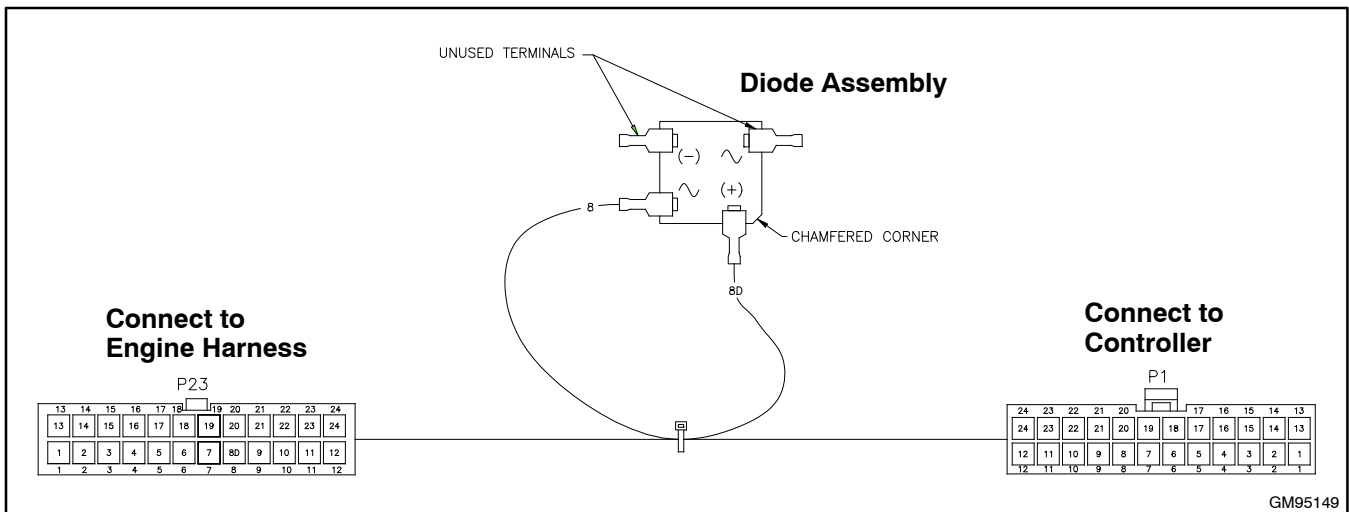

Figure 20 Diode Harness GM95149 (for original controllers manufactured before 9/15/14)
If a green-board controller is being replaced, check for the presence of diode harness GM95149 connected to P1 on the controller. The diode harness is shown in Figure 4 and Figure 20.
10. If an original green-board controller is being replaced, check for the presence of diode harness GM95149 connected to P1 on the controller. The diode harness is shown in Figure 20.